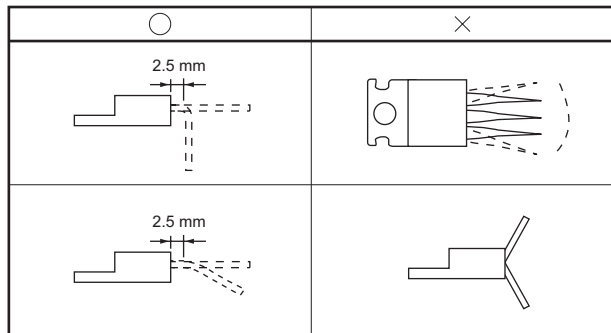

Figure 6.11 External Lead Bending Positions
- 2) Bend the leads at a distance of at least 2.5 mm from the base of the lead. Also, keep the bend angle to within 90 degree and make the bend radius at least 0.75 mm. In addition, do not bend the leads toward their thicker side (See Figure 6.11).